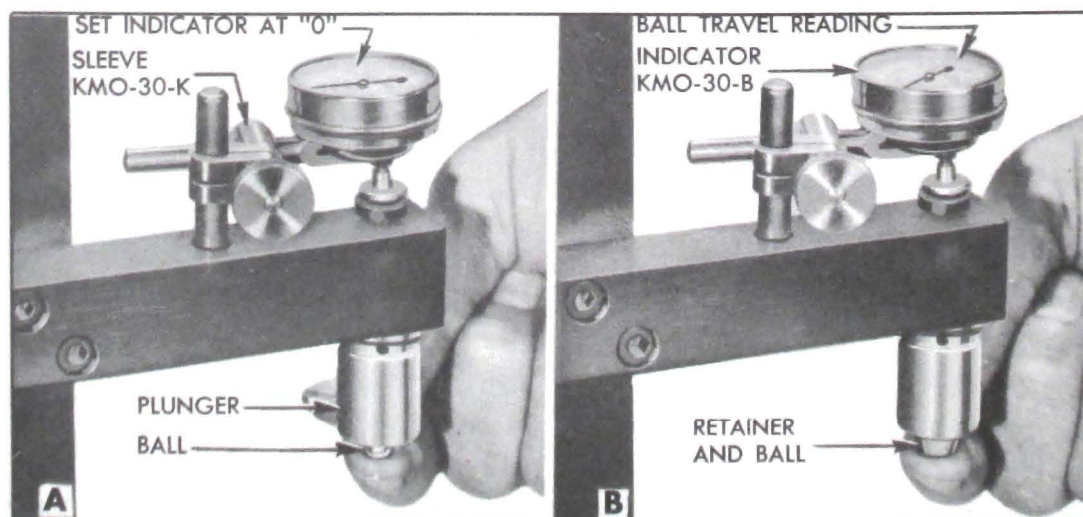

Figure 2-25—Checking Ball Travel
1. Prepare the ball travel checking attachment of Test Fixture J 5095 by using Sleeve KMO-30-K to mount Dial Indicator KMO-30-B so that stem of indicator bears squarely on upper end of the pin in attachment. See figure 2-25.
2. Place a new check ball in the seat in lifter plunger, then hold plunger and ball firmly against the attachment arm with plunger centered over the pin and stepped flange. See figure 2-25, view A.
5. Center the plunger over the pin and stepped flange of the check attachment and while pressing plunger and retainer firmly against attachment arm note the dial indicator reading. See figure 2-25, view B.